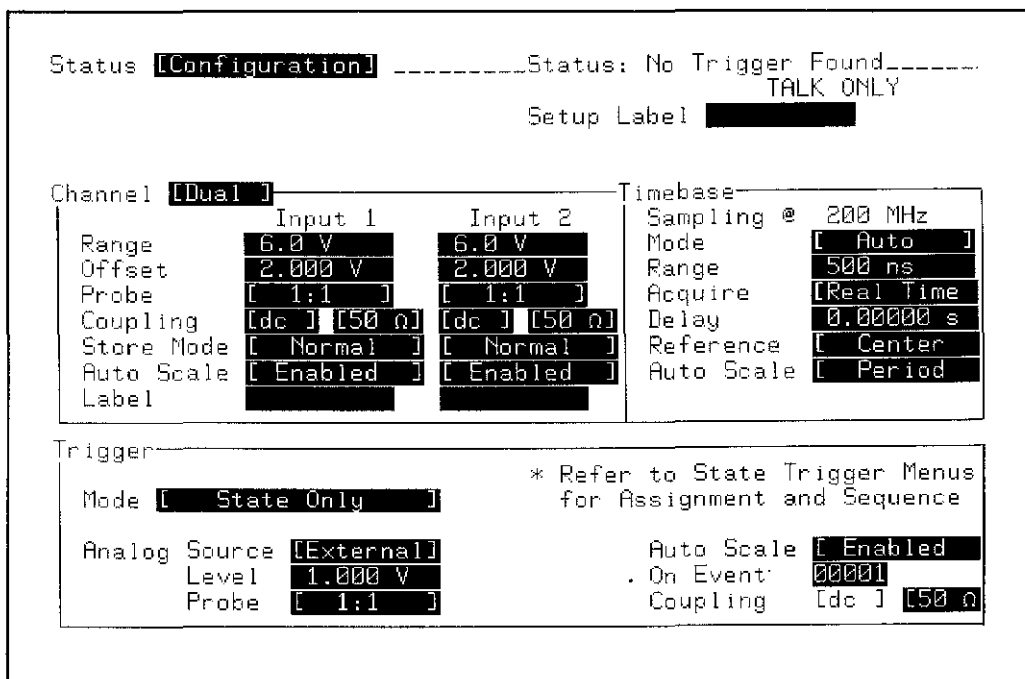

Figure 3-34. STATUS Configuration Menu
1. Configure the STATUS Configuration menu as shown in figure 3-34.